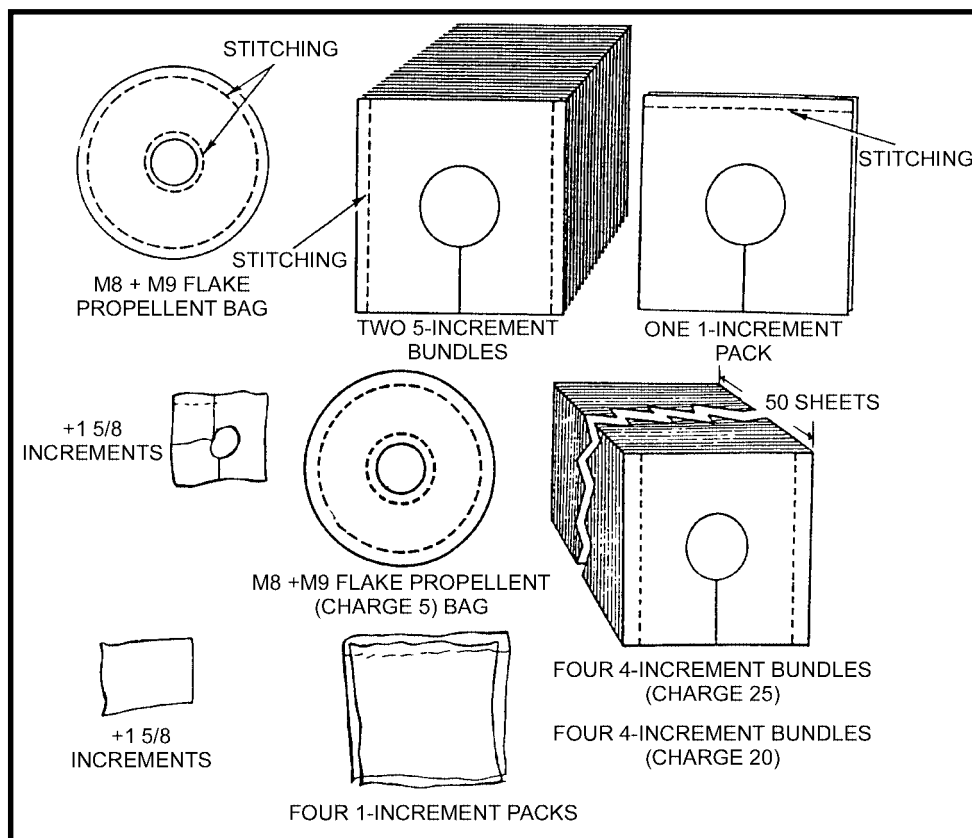

Figure 6-29. Arrangement of propelling charges.
a. **Propelling Charges**. Propelling charges M6, M36A1, and M36A2 are used with 4.2-inch cartridges (Figure 6-29).